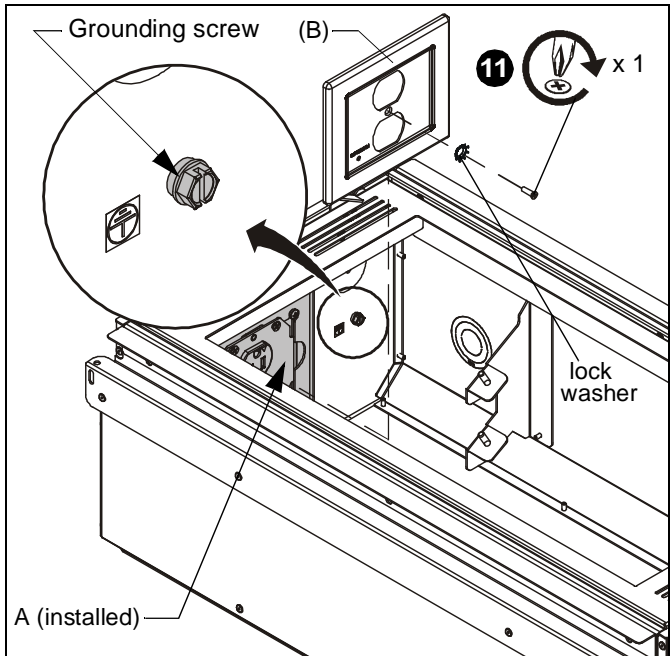
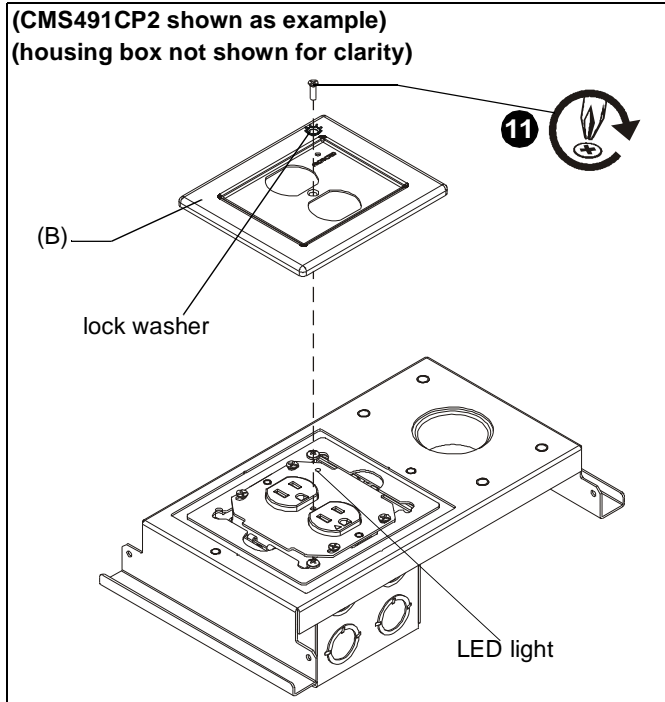

Figure 5
Figure 7
9. Make sure grounding screw is properly installed. (See Figure 5)
11. Install faceplate (B) onto EGX-SF2 using one 6-32 x 1/2" Phillips flat head screw and lock washer previously removed from front of box. (See Figure 5) or (See Figure 7)
NOTE: Make sure LED light on outlet box lines up with hole location on faceplate (B). (See Figure 7)